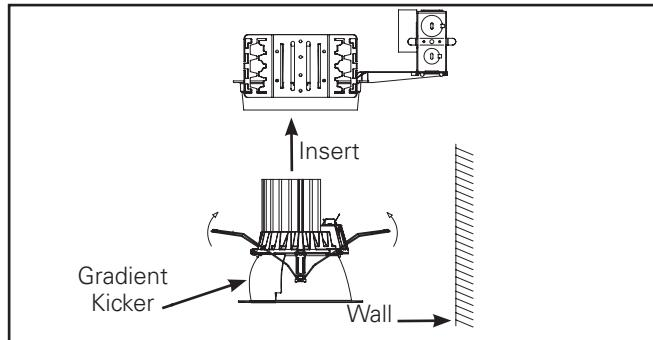

Figure 14
2. For wall wash option install trim assembly with gradient kicker opposite wall to be illuminated. (Figure 14)